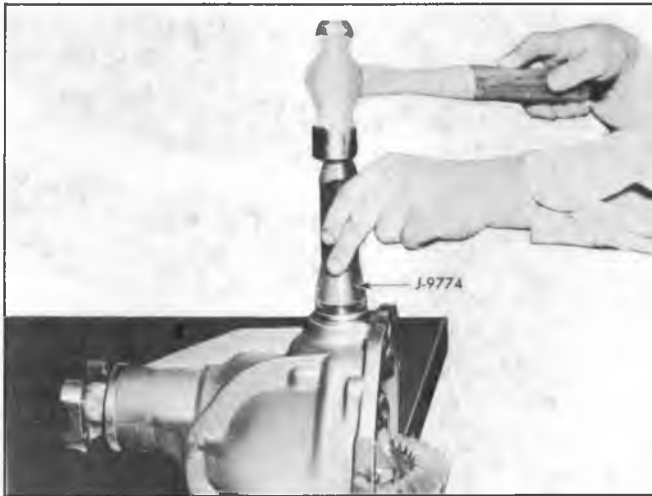

Fig. 7C--Installing Side Gear Yoke Seal
2. Place a new seal on Installer J-9774 and install into seal bore outboard of bearing as in Figure 7C.